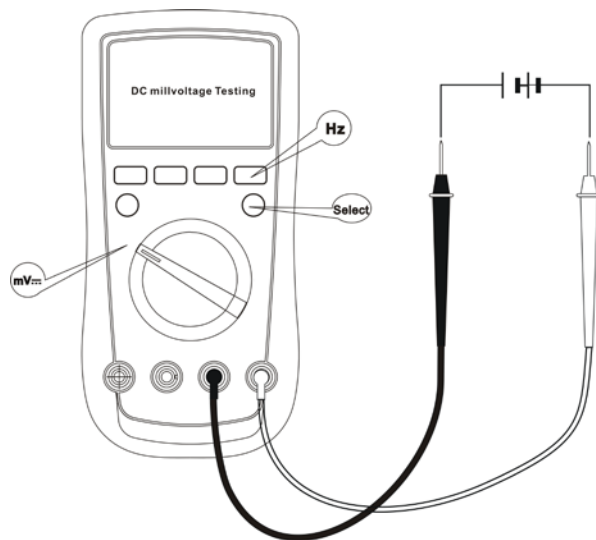

Figure 5
B. DC millivoltage Testing (see figure 5)